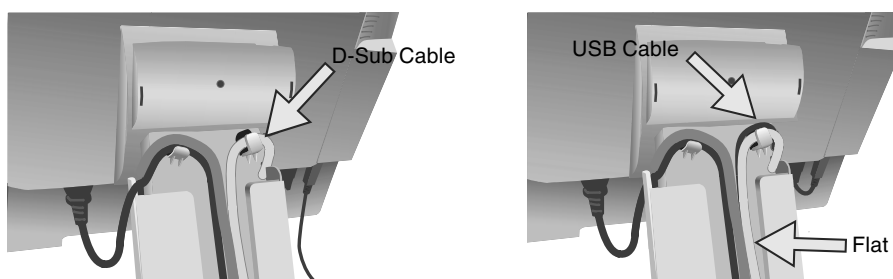

Figure C.3
8. Make sure all cables are resting flat against the stand (**Figure C.3**).